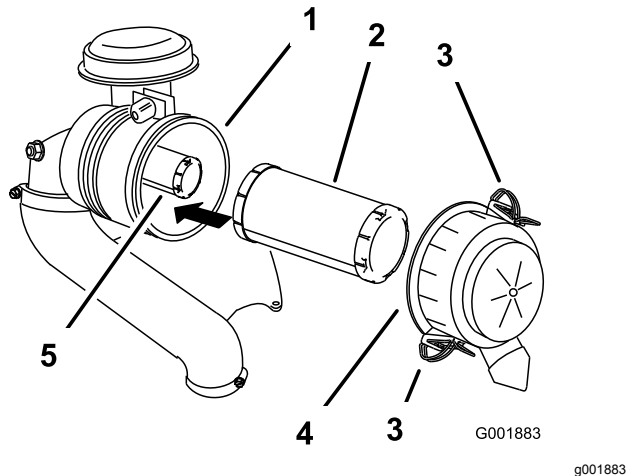

Figure 26
3. Release the latches on the air cleaner and pull the air-cleaner cover off the air-cleaner body (Figure 26).
5. Gently slide the primary filter out of the air-cleaner body (Figure 26).
2. If you are replacing the safety filter, carefully slide it into the filter body (Figure 26).
3. Carefully slide the primary filter over the safety filter (Figure 26).
4. Install the air-cleaner cover with the side indicated as **up** facing upward and secure the latches (Figure 26).